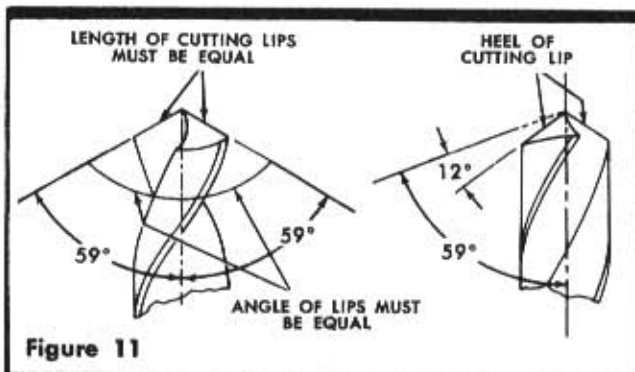

Figure 11
3. **Drill Sharpening.** (See figure 11.) When grinding twist drills, extreme care should be exercised, in order to maintain the efficiency of the drill. The dead center of the point must be maintained, that is, both cutting lips must be the same length. Also, the angle of cutting lips in relation to the center-line of the drill must be equal. The angle should be approximately 59 degrees (118 degrees included) for metal, and 30 degrees (60 degrees included) for wood. The cutting lip should be relieved gradually behind the cutting edge so that the clearance at the heel is approximately 12 degrees.